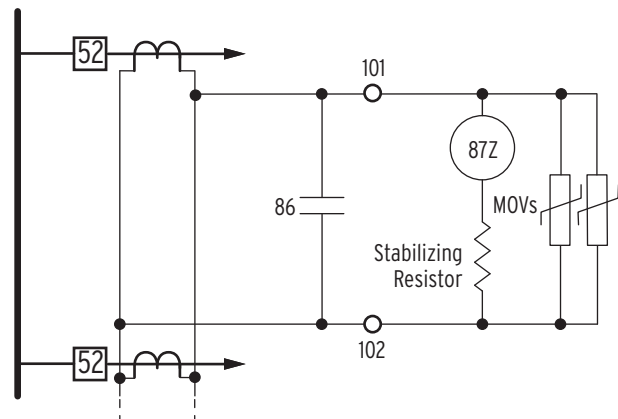

Figure 3 Typical Circuit Connection for High-Impedance Differential Protection
High-impedance differential protection offers immunity against relay misoperation resulting from CT saturation, provided the stabilizing resistor in the circuit has a sufficiently high value. To comply with this requirement, the SEL-587Z uses 2000-ohm resistors, large enough to provide security against CT saturation for through faults. Figure 3 shows typical connections of the lockout contact (86), differential element (87Z), and MOV.